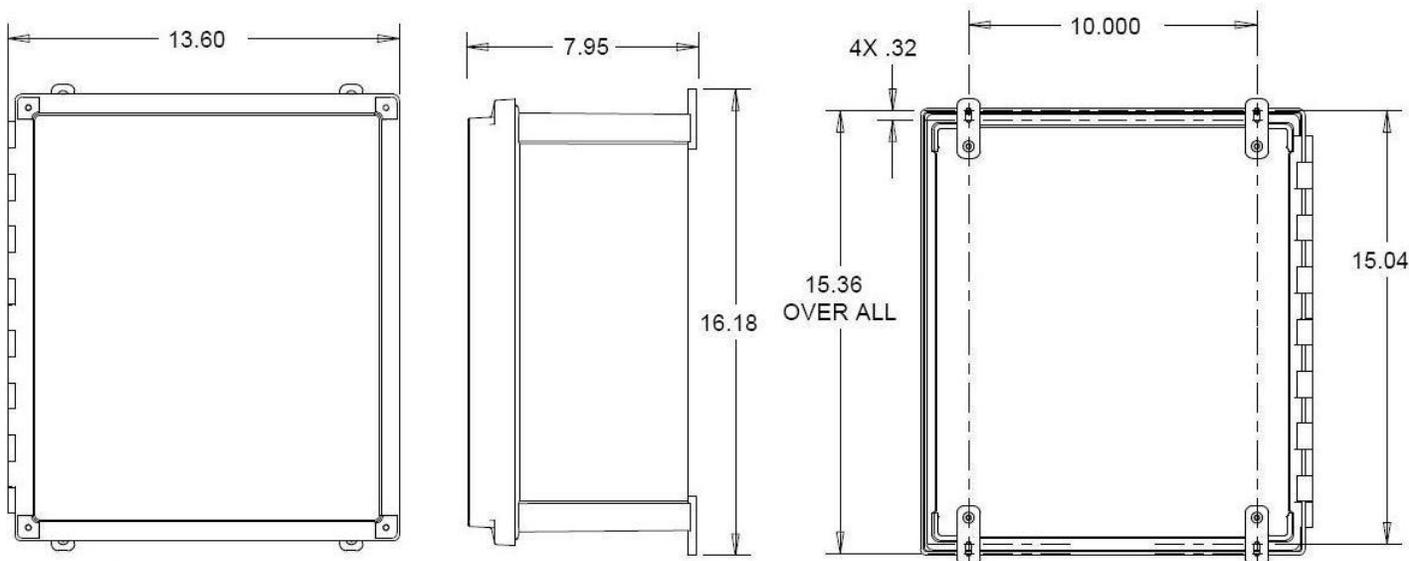

Figure 3. NEMA Enclosure Dimensions
1. Using the dimensions shown in Figure 3, determine where to mount the NEMA enclosure. Make sure the mounting location is a solid surface.